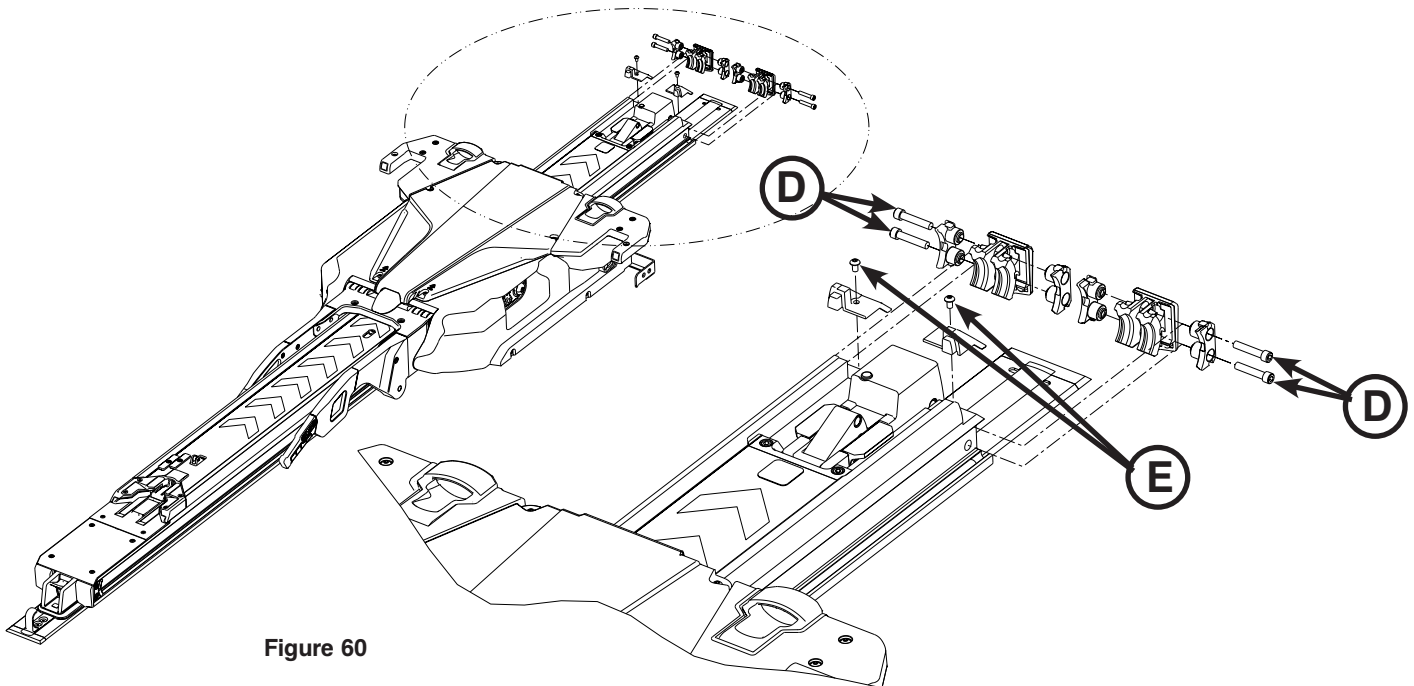

Figure 60
3. Using a T25 Torx driver, remove the two screws that secure the transfer trim (E) (Figure 60).
4. Using a 3/16" hex wrench, loosen (do not remove) the four socket head cap screws (two on each side) (D) that secure the dead stops to the transfer assembly (Figure 60).